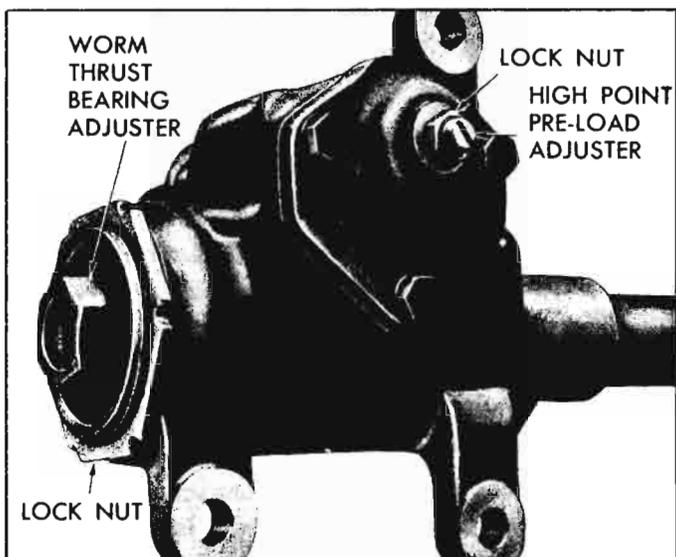

Fig. 4-34—Steering Gear Adjustment Points
STEERING GEAR (FIG. 4-34)
- lock nut and turn the lash adjusting screw a few turns counterclockwise (fig. 4-34).